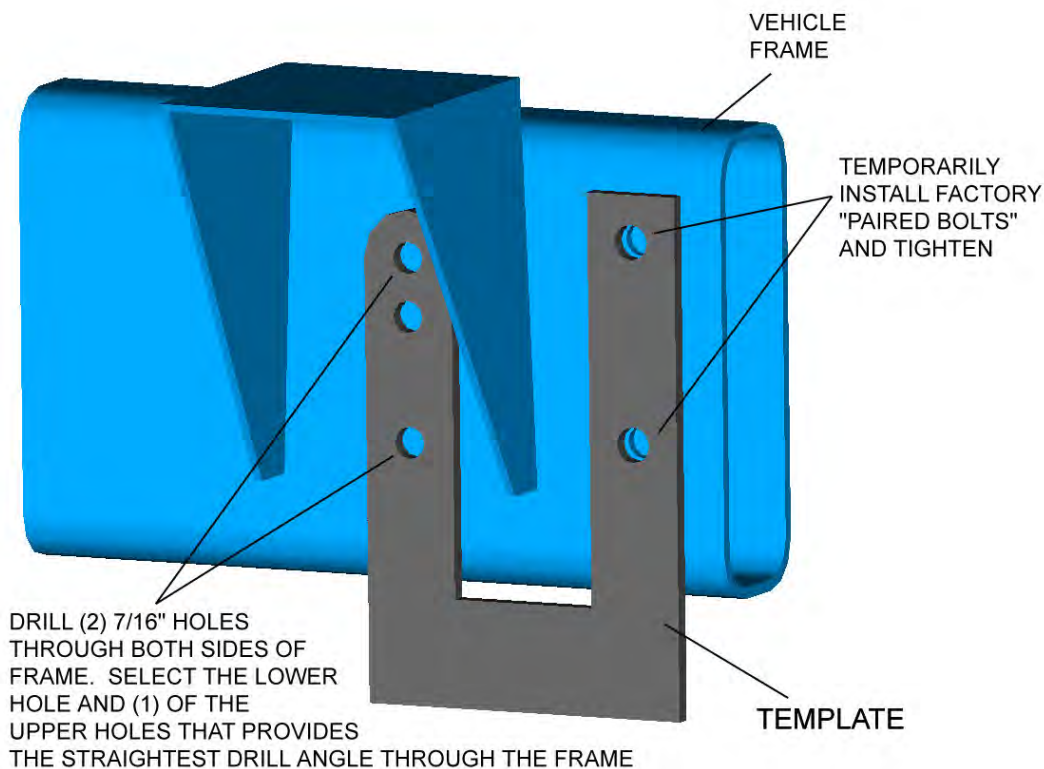

Figure 3 Template in place outside the right (passenger side) frame rail
5. Install the Template as shown in **Figure 3**. Temporarily install the factory “paired bolts from the outside of the frame. Install the nuts and tighten enough to prevent the Template from moving. Drill two (2) 7/16” holes through the remaining Template holes and both inner and outer frame walls. It is important that the holes be drilled straight across the frame in order to align with the brackets to be installed later. If the Template has more than one upper hole, drill the one that allows for the straightest drill angle through the frame. Later models typically use the lower of the (2) upper holes due to body mount interference. Repeat this step for the opposite side of the vehicle.